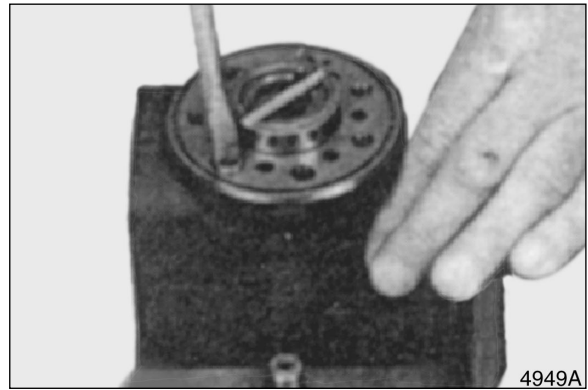

Figure 19
11. Unscrew threaded bushing and remove it. See Figure 19.